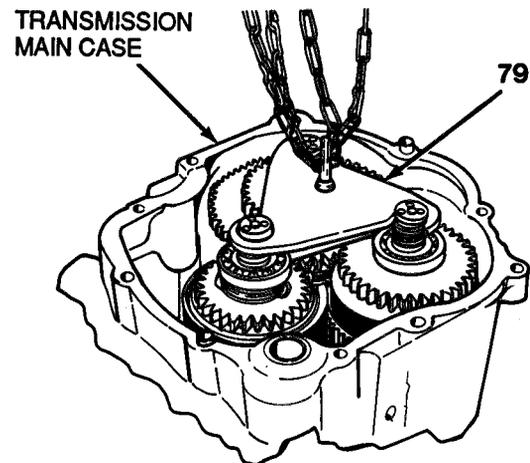

Figure 11-19
40. Remove pipe plugs (75) and (76).
41. Remove relief valve assembly (77) and breather (78) from front cover (67). Drive out relief valve assembly (77) by using driver. Discard relief valve assembly (77).
42. Install clutch pack lifting tool on clutch group (79, Figure 11-19).